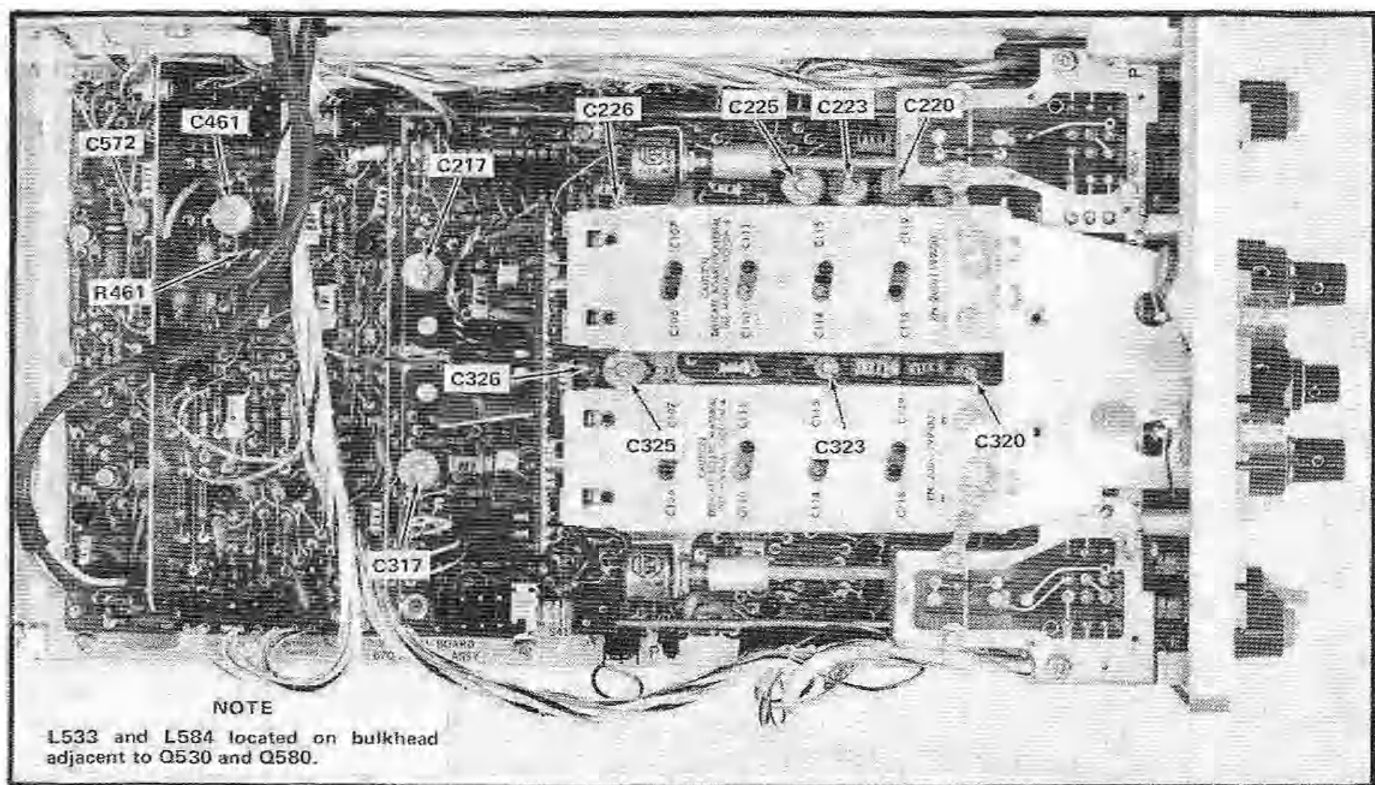

Fig. 5-9. Location of vertical system high-frequency compensation adjustments.
g. ADJUST—C217, C226, C461, R461, C572, L533, and L584 (see Fig. 5-9) for optimum risetime and aberrations typically less than +2%, -2%, or a total of 2% peak to peak (+3%, -3%, a total of 3% peak to peak if this measurement is being made outside of the +20°C to +30°C temperature range).
m. ADJUST—C317 and C326 (see Fig. 5-9) for optimum risetime with aberrations typically less than +2%, -2%, or a total of 2% peak to peak (+3%, -3%, or a total of 3% peak to peak if this measurement is being made outside of the +20°C to +30°C temperature range).
ac. ADJUST—Refer to Table 5-3 for the correct adjustment and tolerances. See Fig. 5-9 for adjustment locations.